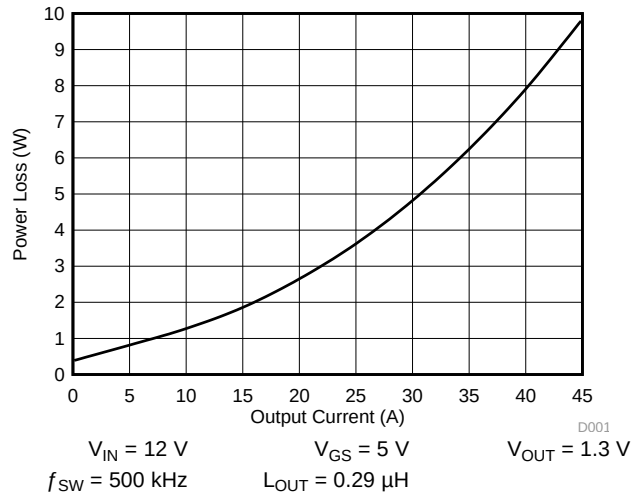
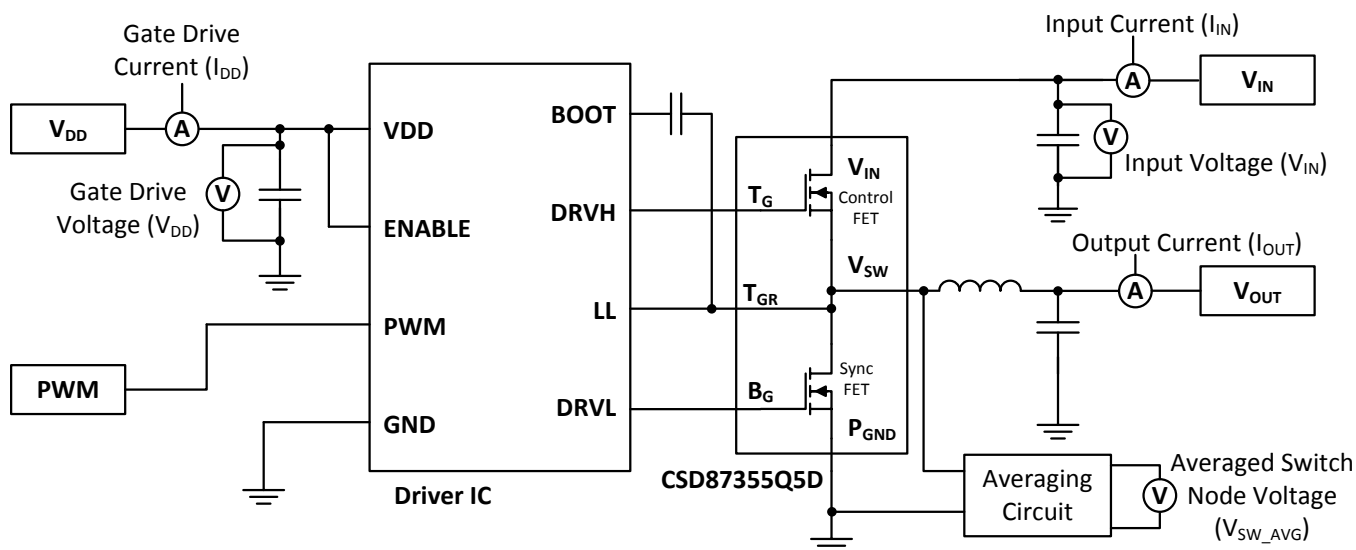

图 1. Power Loss vs Output Current
图 31.
MOSFET centric parameters such as  $R_{DS(ON)}$  and  $Q_{gd}$  are needed to estimate the loss generated by the devices. In an effort to simplify the design process for engineers, Texas Instruments has provided measured power loss performance curves. 图 1 plots the power loss of the CSD87355Q5D as a function of load current. This curve is measured by configuring and running the CSD87355Q5D as it would be in the final application (see 图 31). The measured power loss is the CSD87355Q5D loss and consists of both input conversion loss and gate drive loss. 公式 1 is used to generate the power loss curve.
The power loss curve in 图 1 is measured at the maximum recommended junction temperatures of 125°C under isothermal test conditions.
- Power Loss at 25 A = 3.62 W (图 1)